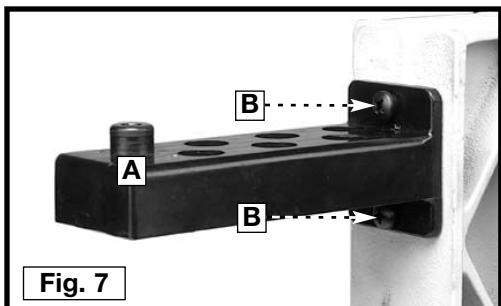

Fig. 7
1. Attach the tool and chisel holder (A) Fig. 7 to the back of the column, using the two M6x1x25mm screws (B) and M6 lockwashers.